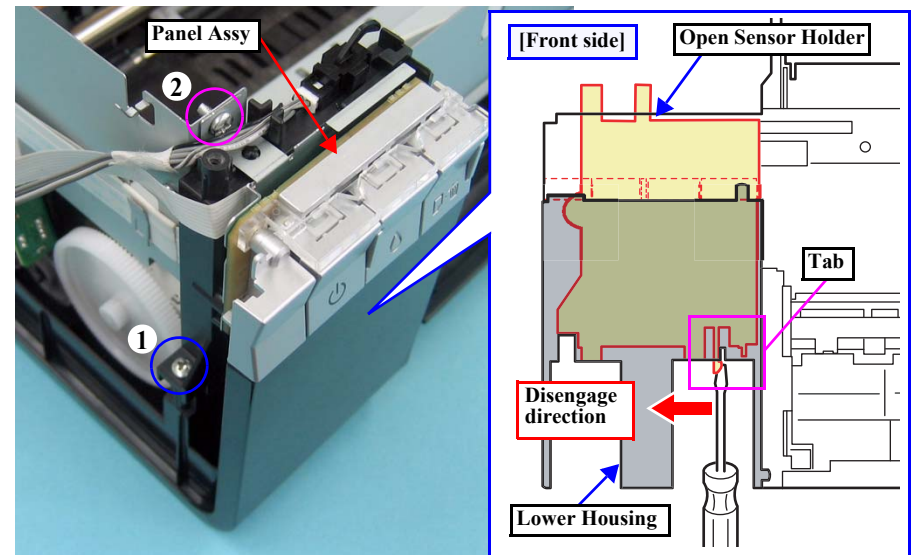
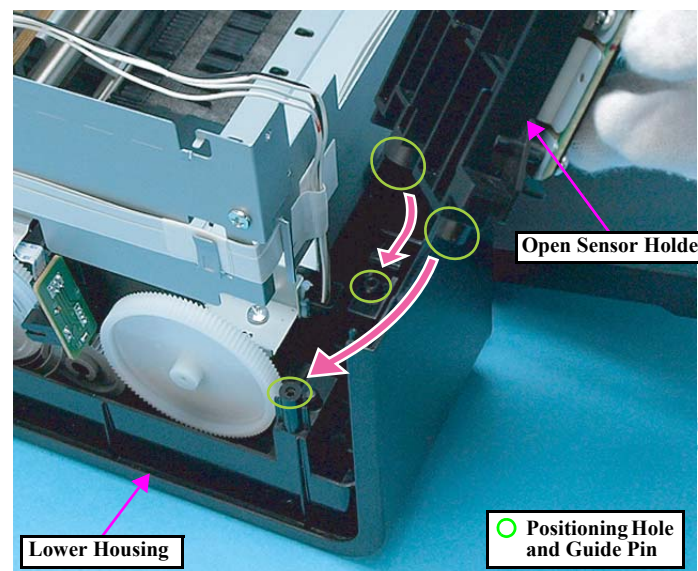

Figure 4-116. Removing the Panel Assy (2)
Figure 4-119. Installing the Panel Assy (2)
When removing the screw (2) shown in Fig.4-116, be careful not to damage the Cover Open Sensor Cable and CDR Sensor Cable.
- Screw (1) (3 pcs.): C.B.P. M3x6 (tightening torque: 5-7 kgf.cm) (No.1)
- Screw (2) (3 pcs.): C.B.P. M3x10 (tightening torque: 5-7 kgf.cm) (No.4)
- Tighten the screws in the order given in Fig.4-116.
- As shown in Fig.4-116 (p.99) and Fig.4-119, match the positioning holes of the Open Sensor Holder with the guide pins of the Lower Housing, and secure the Open Sensor Holder with the tab.